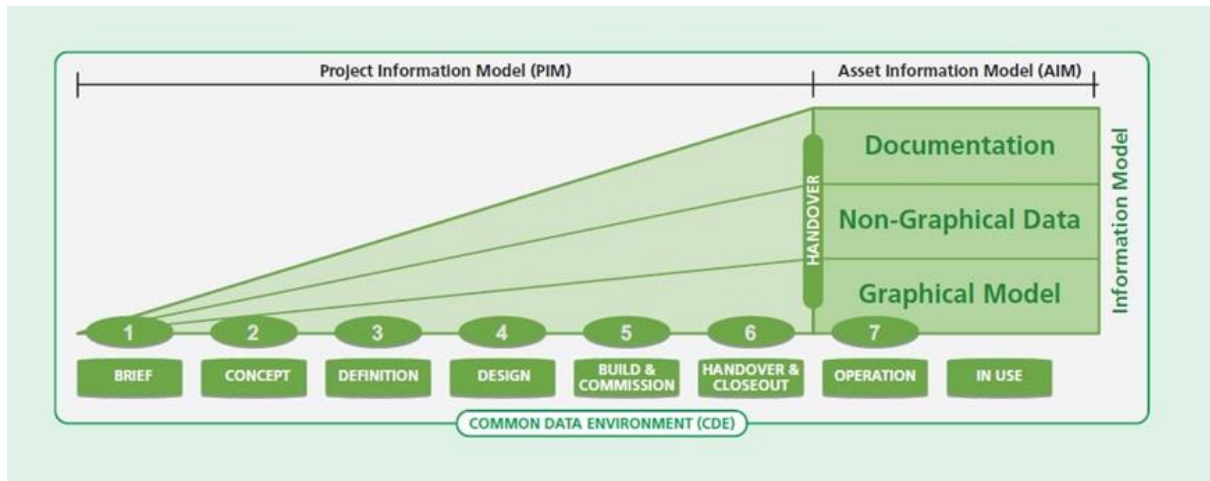

Fig. 1 Typical BIM Information Workflow
- a) During the delivery phase (design and construction phase) the Consultant's project teams shall create information models using both graphical and non-graphical data, clearly structured and accurately linked. Such data builds in richness as the project stages progress (*Fig. 1*). At handover, the complete data shall be passed to the asset's end-users of the Client. The information model is called a "Project Information Model" (PIM) during the Delivery Phase and an "Asset Information Model" (AIM) once a project is handed over and complete.